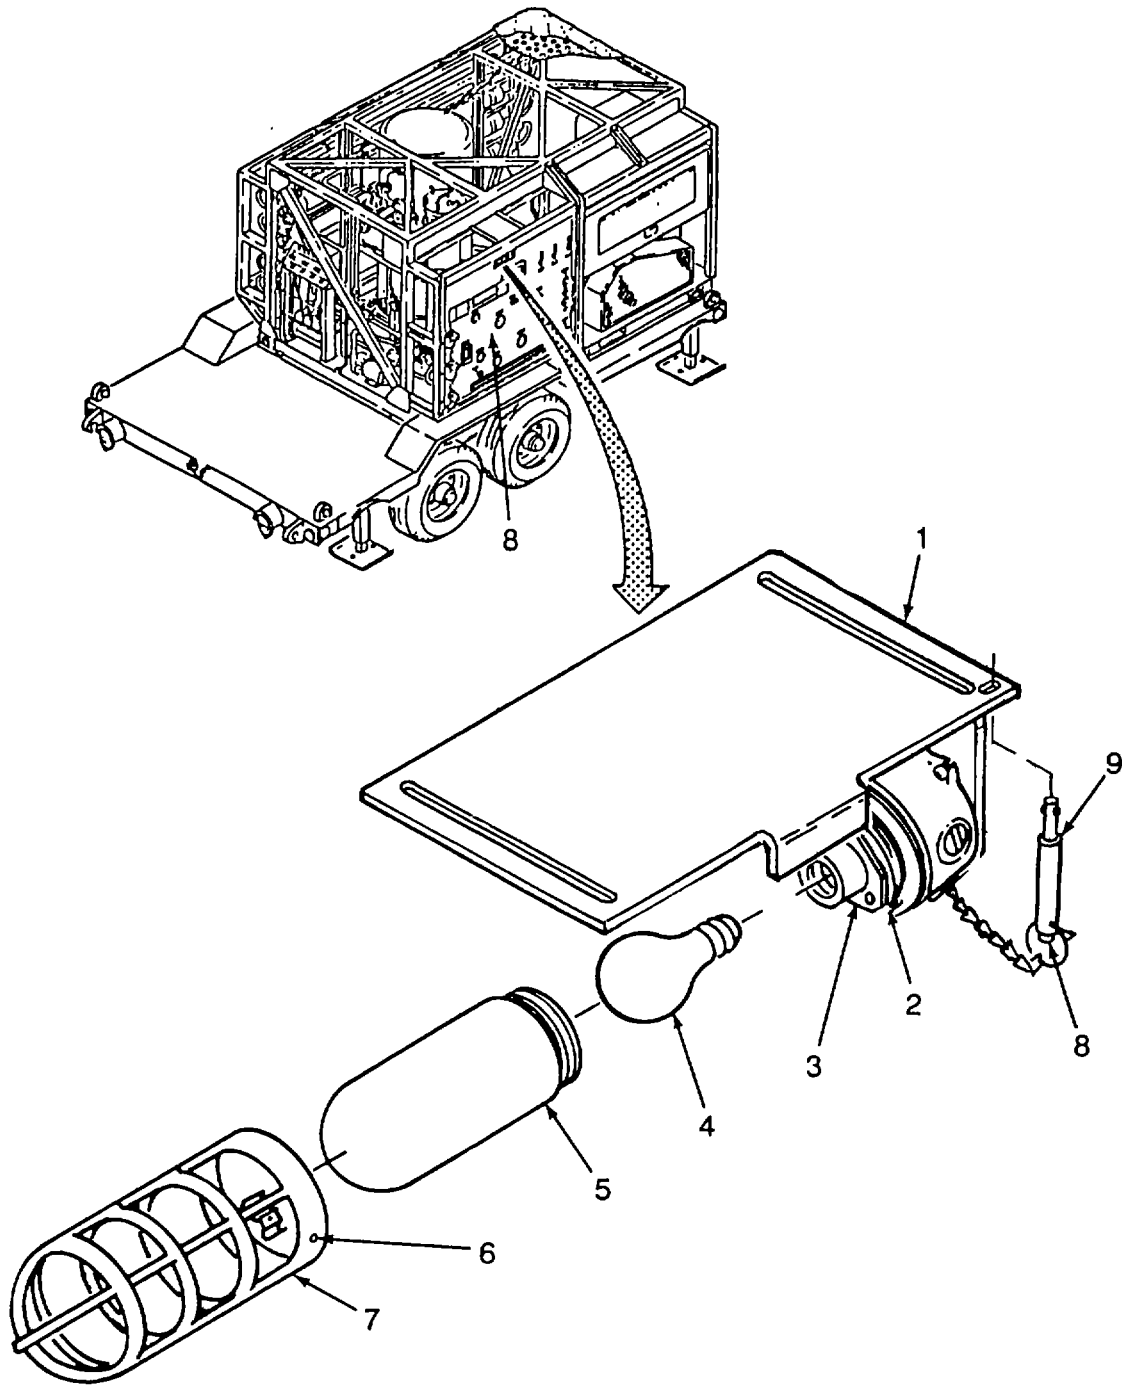

Figure 3-10. Panel Lamp Replacement.
a. Removal. Refer to figure 3-10.
- (1) While depressing detent button (8) with thumb, pull quick release pin (9) from light bracket (1).
- (2) Pull out panel light bracket (1) from control panel (8).
- (3) Loosen screw (6) and remove guard (7) from fixture body (2).
- (4) Unscrew globe (5) from fixture body (2).
- (5) Unscrew lamp (4) from socket (3).
b. Installation. Refer to figure 3-10.
- (1) Screw lamp (4) into socket (3).
- (2) Screw globe (5) onto fixture body (2).
- (3) Position guard (7) on fixture body (2) and tighten screw (6).
- (4) Push panel light bracket (1) into control panel (8).
- (5) While depressing detent button (8) with thumb, push quick release pin (9) through light bracket (1) and into frame of control panel (8).